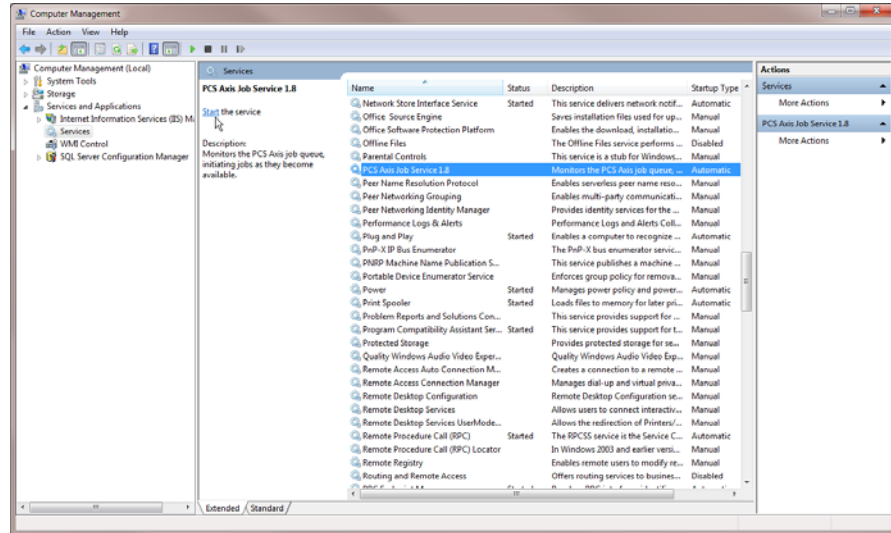

Figure 11-5. Computer Management Console
- a Click the Windows **Start** button  and navigate to *Computer*. Right-click **Computer** and select **Manage** in the shortcut menu to open the *Computer Management* console (Figure 11-5, page 534).